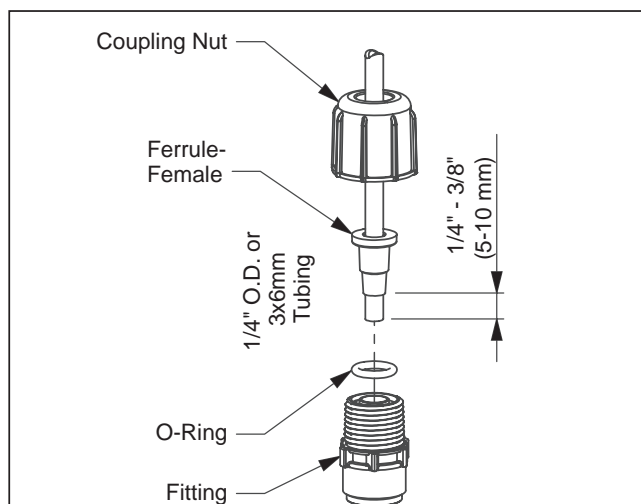

Figure 4
- 2a. For 1/4" OD tubing: Position the Female Ferrule so that 1/4" to 3/8" (5-10 mm) of tubing protrudes from the Female Ferrule. Orient the raised collar of the Ferrule toward the Coupling Nut (reference *Figure 4*).